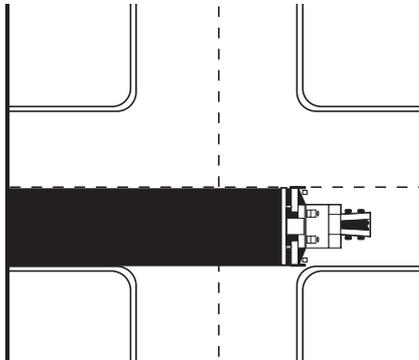

Figure 7-14. Paving Through Intersection
- Pave through the intersection, and just before the Tracker reaches the curb on the other side (Figure 7-14), press the Auto/manual button to put the Control Box in manual mode.